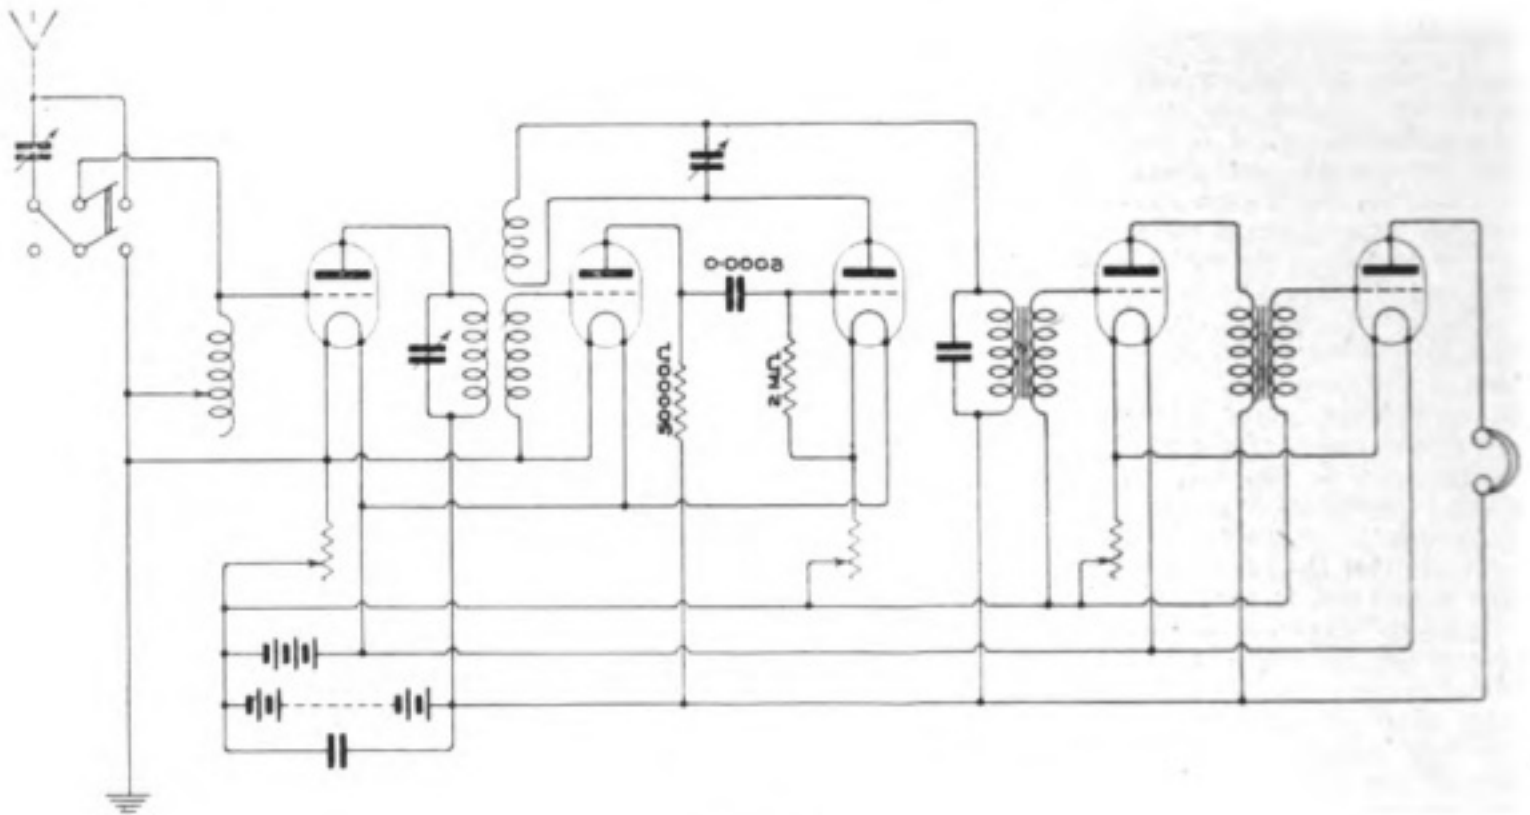

Fig. 1.
(1) Circuit of Fig. 1, page 435, of July 1st issue, is quite a good one. The L.T. battery is not shown, but should be connected straight across any one of the filaments. (2) Certainly. (3) We do not know. These are recently allotted. (4) With interchangeable plug-in transformers this one is the best circuit possible. A potentiometer to the first grid would be of some advantage.
See diagram, Fig. 1.
(1) See Fig. 1, page 465, July 8th issue, and many similar circuits. (2) By bringing the coils close